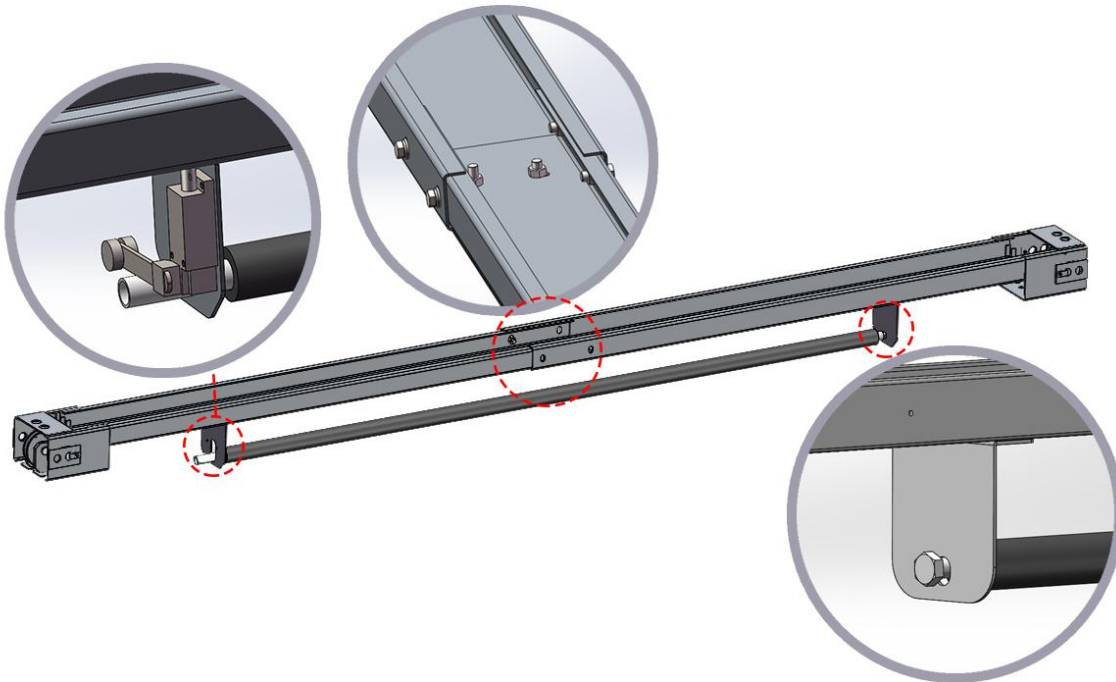

Fig 4 Assemble overhead top beam
2.2.2 Assemble overhead top beam (Fig 4)